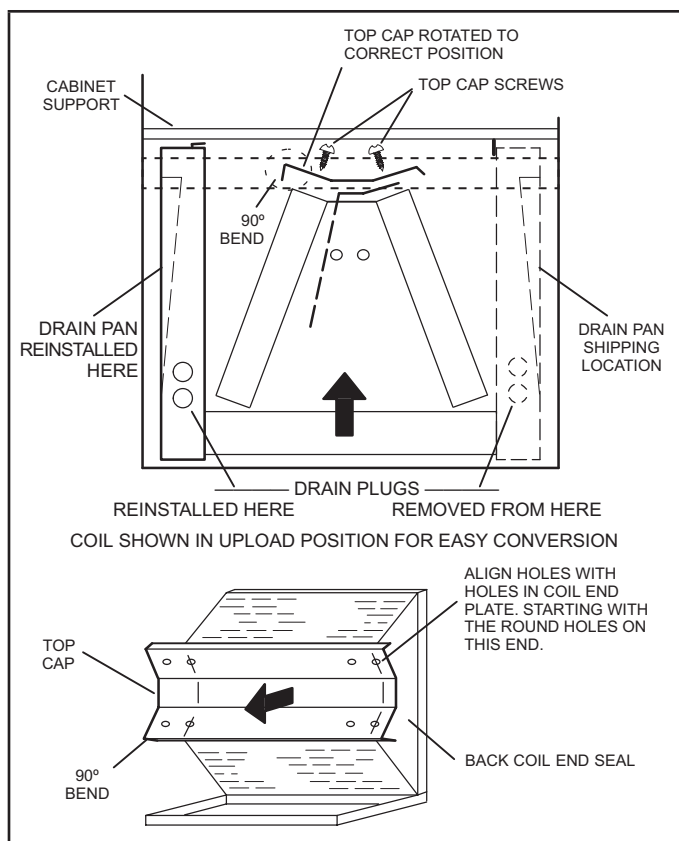

FIGURE 7. Field Modification for Left-Hand Discharge
- 7 - Rotate top cap 180° front-to-back and align with unused screw holes. Holes must align with front and back coil end plates. The top cap has a 45° bend on one side and a 90° bend on the other. **The 90° bend must be on the same side as the horizontal drain pan as illustrated in figure 7.**